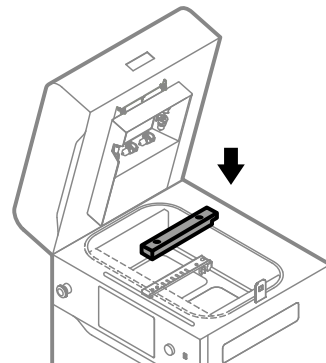

Fig. 13.98 Reinstall the black Recoater cover and tighten the screws.
18. Reinstall the black Recoater cover (fig. 13.98).